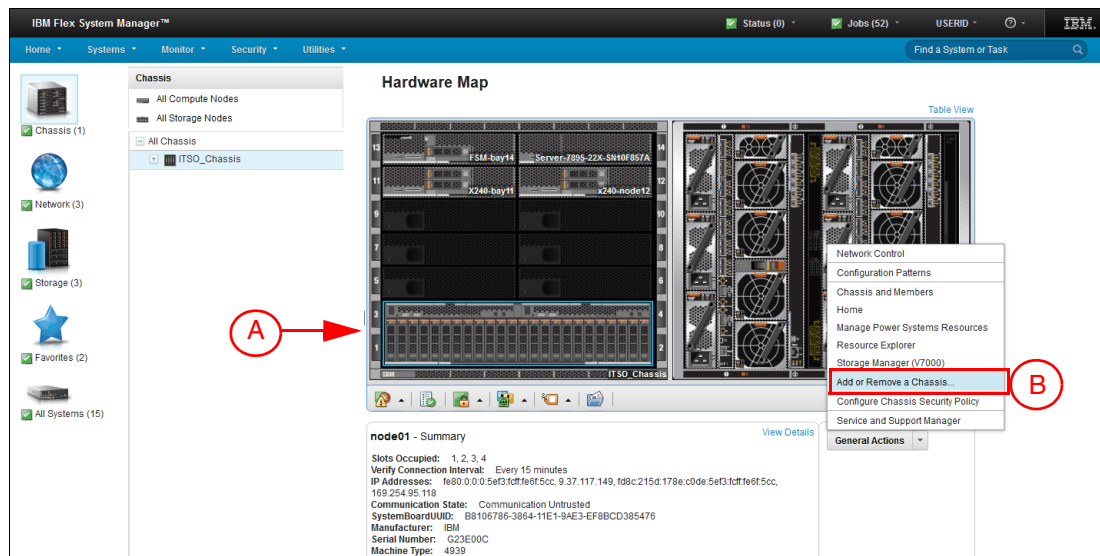

Figure 4-4 Add a chassis into Chassis Manager
3. From the Chassis Manager page in the management software web interface, click the chassis name that contains your applicable storage node as shown in Figure 4-4 (A) and continue to Step 4. If the chassis is not displayed, add the chassis by performing the following steps:
- a. Select **General Actions** → **Add or Remove a chassis**, as shown in Figure 4-4 (B).